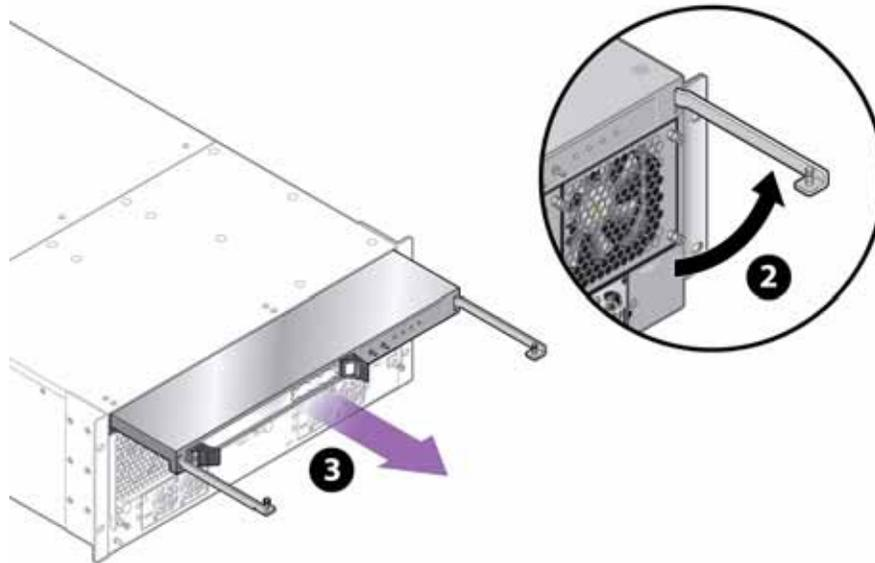

Figure 2 Removing the VP780 Front Panel Assembly
Step 3 Simultaneously grasp both of the release levers and slowly raise them until they are horizontal (2), then use the levers to carefully slide the assembly out of the chassis (3). See Figure 2.
- Step 1 Carefully align the FP-2 with the Front Panel bay in the chassis. Make sure that the FP-2 is facing up, and the handles are pointing straight towards you as shown in (3) in Figure 2.
- Step 3 When the FP-2 plug has contacted the socket inside the chassis, simultaneously grasp both of the release levers and slowly lower them until they are vertical and flush with the chassis. This step is the reverse of (2) in Figure 2.